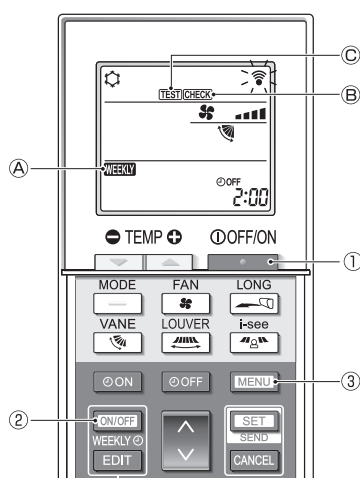

Fig. 5-1
1. Testrun (Fig. 5-1)
- Press the  button ① to stop the air conditioner.
- If the weekly timer is enabled (**WEEKLY** Ⓐ is on), press the  button ② to disable it (**WEEKLY** Ⓐ is off).
- Press the  button ③ for 5 seconds.
- Press the  button ③.